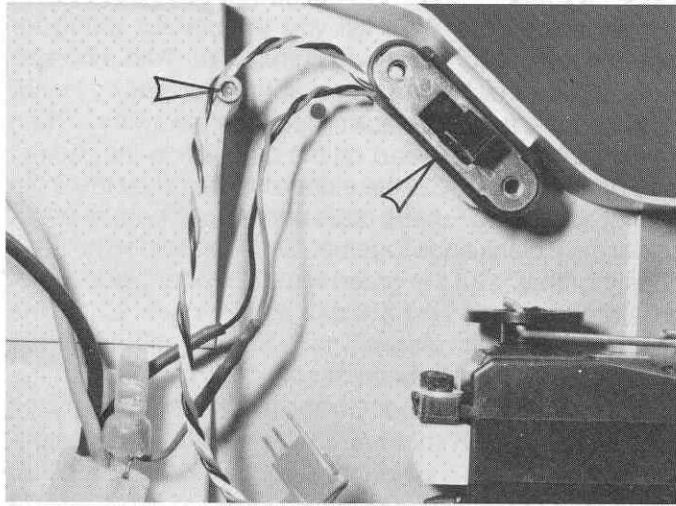

Fig. 180
□ **Fig. 180** In Bag #6-7 are 2 Allen screws with cross drilled holes in the heads. Install these in the 2 forward holes in the battery trays, where the arrow is pointing. Do not tighten the screws all the way down, but leave them up about .025 (65mm). Then in the other 2 rear holes install the other 2 regular Allen screws. Do not tighten these all the way either, but leave them up about .080 (2mm). Now, attach the switch to the side of the chassis, as shown, with servo tape. Mount the switch down low so the toggle doesn't hit the body.